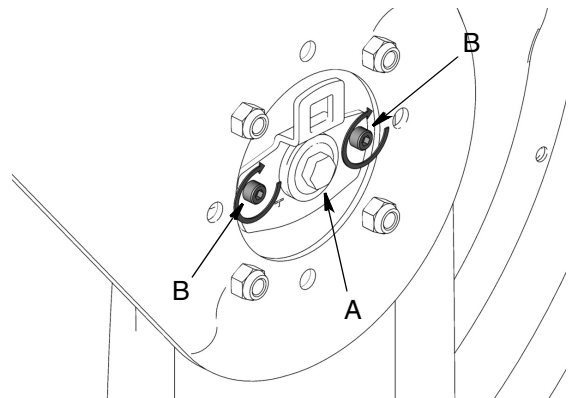

FIG. 17
9. Replace and tighten screws (B) and (A) (FIG. 17).